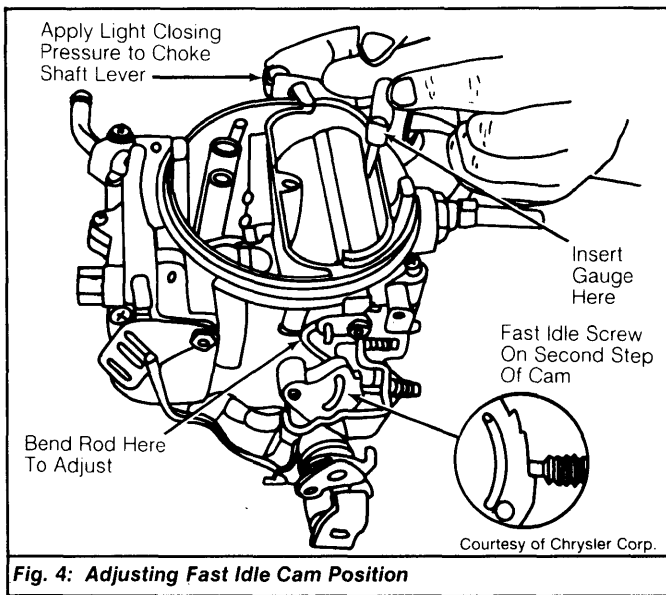

Fig. 4: Adjusting Fast Idle Cam Position
- 3) To adjust, bend fast idle cam connector rod at existing bend. See Fig. 4.